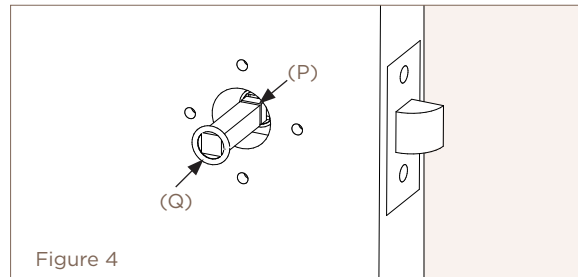

Figure 4
- 4.1 Place the privacy spindle (P) through your tube latch privacy inbuilt (J). Figure 4.